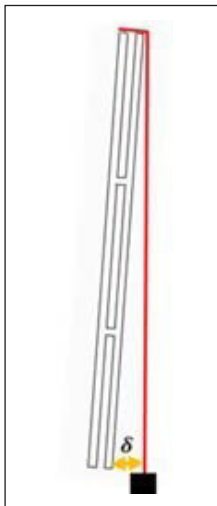

Figure 30: Plumb Verification (Side View)
- 2. Ensure the structure is plumb by placing a sufficiently long level attached to the top panel of the frame. Refer to **Figure 30**. If possible, adjust the structure or plan ahead for panel adjustments while installing the display sections if the value of  $\delta$  at the bottom of the structure exceeds 1 mm for each 1 m of the frame's height. For example, a 10 m high structure would have a  $\delta$  of 10 mm.